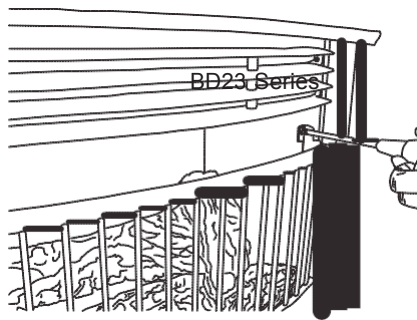

Figure 30 - GSD3033 Removing Grill
13. GSD3033 Remove 2 screws securing grill to stove front. Carefully set grill aside (see Figure 30).
22. GSD3033 Replace grill with 2 screws removed previously (see Figure 30, page 11). For other models, close stove door.